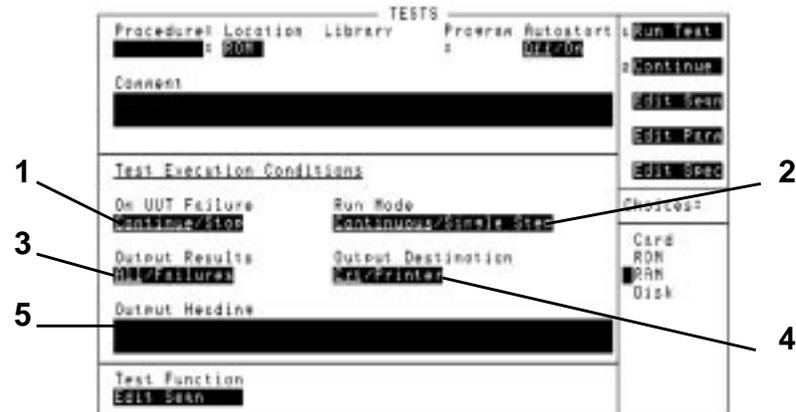

Figure 8-12 Test Execution Conditions
Five **Test Execution Condition** fields are shown in Figure 8-12 on page 8-30. Set up each field according to your testing needs.
Refer to item (1) in Figure 8-12 on page 8-30.
Refer to item (2) in Figure 8-12 on page 8-30.
Refer to item (3) in Figure 8-12 on page 8-30.
Refer to item (4) in Figure 8-12 on page 8-30.
Refer to item (5) in Figure 8-12 on page 8-30.